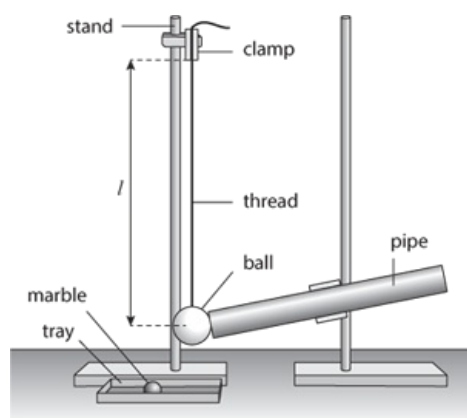

Figure 3.2: Sloping pipe, ball on string and a marble.
- 1 Set up the apparatus as shown in Figure 3.2. The angle and height of the pipe have been set for you. Do *not* adjust the pipe.